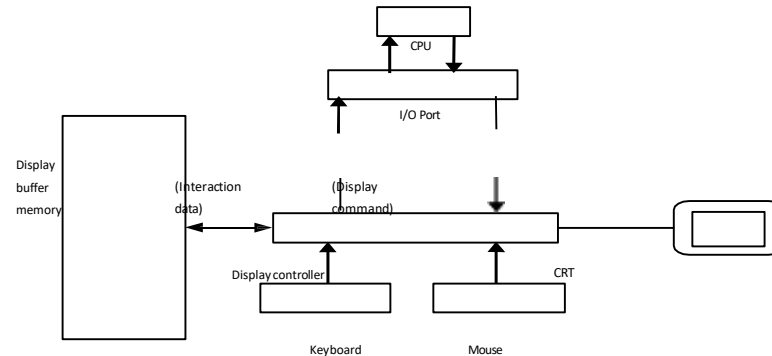

Fig. 1.2: - Architecture of a vector display.
- Fig. 1.2 shows architecture of vector display. It consists of display controller, CPU, display buffer memory and CRT.